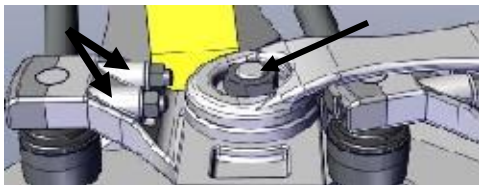

Figure 148
12. Install the clamps on the tie rods. Use new clamp bolts every time the clamp bolts are removed. If the bolts are reused too much they can fail. Use red Loctite #262 on the nuts for the clamp bolts. Tighten to clamp bolts to 100 ft. lbs. Figure 148